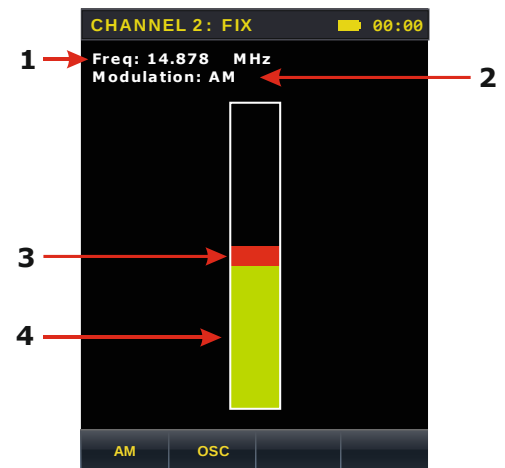

Figure 23
Mode screen shown in Figure 23.
Monitoring changes in the relative signal level of the indicator (item 3, 4, Fig. 23)
Adjust the center frequency of the signal with a step equal to the bandwidth (position 1 Figure 23)	LEFT or RIGHT